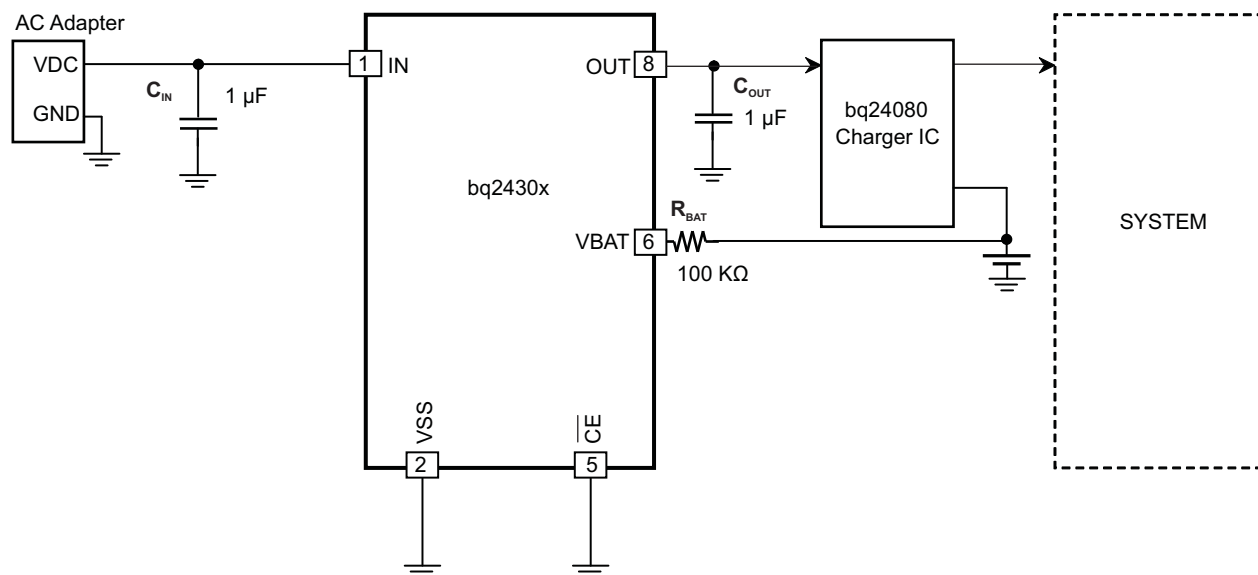
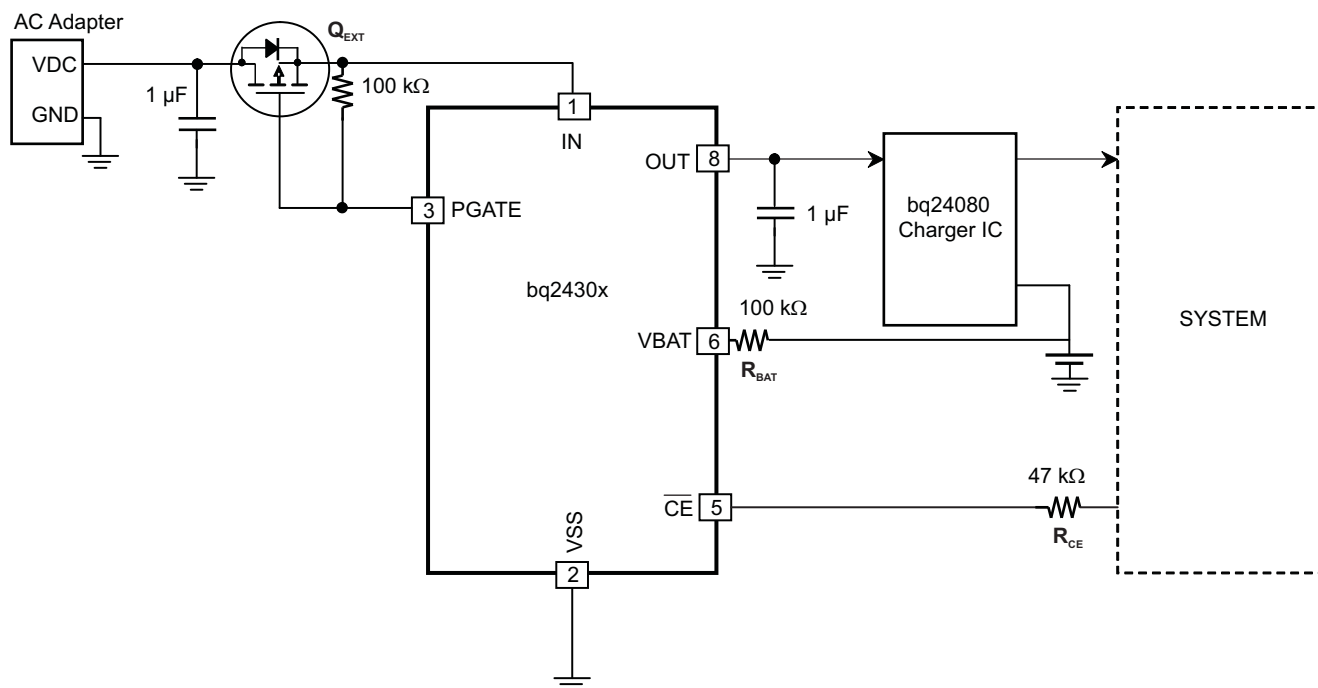

Figure 22. Overvoltage, Overcurrent, and Battery Overvoltage Protection
Figure 23. OVP, OCP, BATOV, and Input Reverse-Polarity Protection
Test conditions (unless otherwise noted) for typical operating performance are: $V_{IN} = 5\text{ V}$, $C_{IN} = 1\text{ }\mu\text{F}$, $C_{OUT} = 1\text{ }\mu\text{F}$, $R_{BAT} = 100\text{ k}\Omega$, $R_{OUT} = 22\text{ }\Omega$, $T_A = 25^\circ\text{C}$ (see Figure 22 - Typical Application Circuit)
The input capacitor C_{IN} in Figure 22 and Figure 23 is for decoupling, and serves an important purpose. Whenever there is a step change downwards in the system load current, the inductance of the input cable causes the input voltage to spike up. C_{IN} prevents the input voltage from overshooting to dangerous levels. It is strongly recommended that a ceramic capacitor of at least 1 μF be used at the input of the device. It should be located in close proximity to the IN pin.
C_{OUT} in Figure 23 is also important: If a fast ($< 1\mu s$ rise-time) overvoltage transient occurs at the input, the current that charges C_{OUT} causes the device's current-limiting loop to kick in, reducing the gate-drive to FET Q1. This results in improved performance for input overvoltage protection. C_{OUT} should also be a ceramic capacitor of at least 1 μF , located close to the OUT pin. C_{OUT} also serves as the input decoupling capacitor for the charging circuit downstream of the protection IC.
- Added device bq24305 to the data sheet - Changed the bq24305 marking in the Ordering Information table From CHD To: DSG - Changed Figure 22, Overvoltage, Overcurrent, and Battery Overvoltage Protection - Changed Figure 23, OVP, OCP, BATOVP With Input Reverse-Polarity Protection	1 2 12 12
- Deleted Lead temperature (soldering, 10 seconds) from the Abs Max table. This is covered in the Package information. - Changed Recommended Operating Conditions, Input voltage range - MAX value From 30V To: 26V - Changed BV_{OVP} test conditions - From: $\overline{CE} = \text{Low}$, $V_{IN} > 4.3V$, V_{VBAT} increasing To: $\overline{CE} = \text{Low}$, $V_{IN} > 4.4V$, V_{VBAT} increasing - Changed $V_{HYS-BOVP}$ test conditions - From: $\overline{CE} = \text{Low}$, $V_{IN} > 4.3V$, V_{VBAT} decreasing To: $\overline{CE} = \text{Low}$, $V_{IN} > 4.4V$, V_{VBAT} decreasing - Changed the Gate driver clamp voltage Typ value From: 14V To: 15V and the Max value From: 15V To: 17V - Changed Figure 23, OVP, OCP, BATOVP With Input Reverse-Polarity Protection - Changed section - Selection of R_{BAT} text From: $(30V - 3V) \times 100k\Omega = 246\mu A$ To: battery would be $(30V - 3V) \div 100k\Omega = 270\mu A$	2 2 3 3 3 12 16